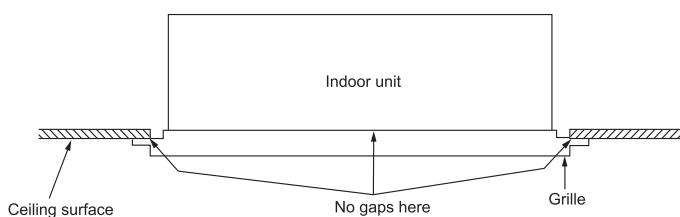

Fig. 6
- Tighten the 4 fixing screws (2) near the corners installed in step 6.
**Otherwise, air may escape from the gap, resulting in water dripping from the indoor unit. (Fig. 6)**